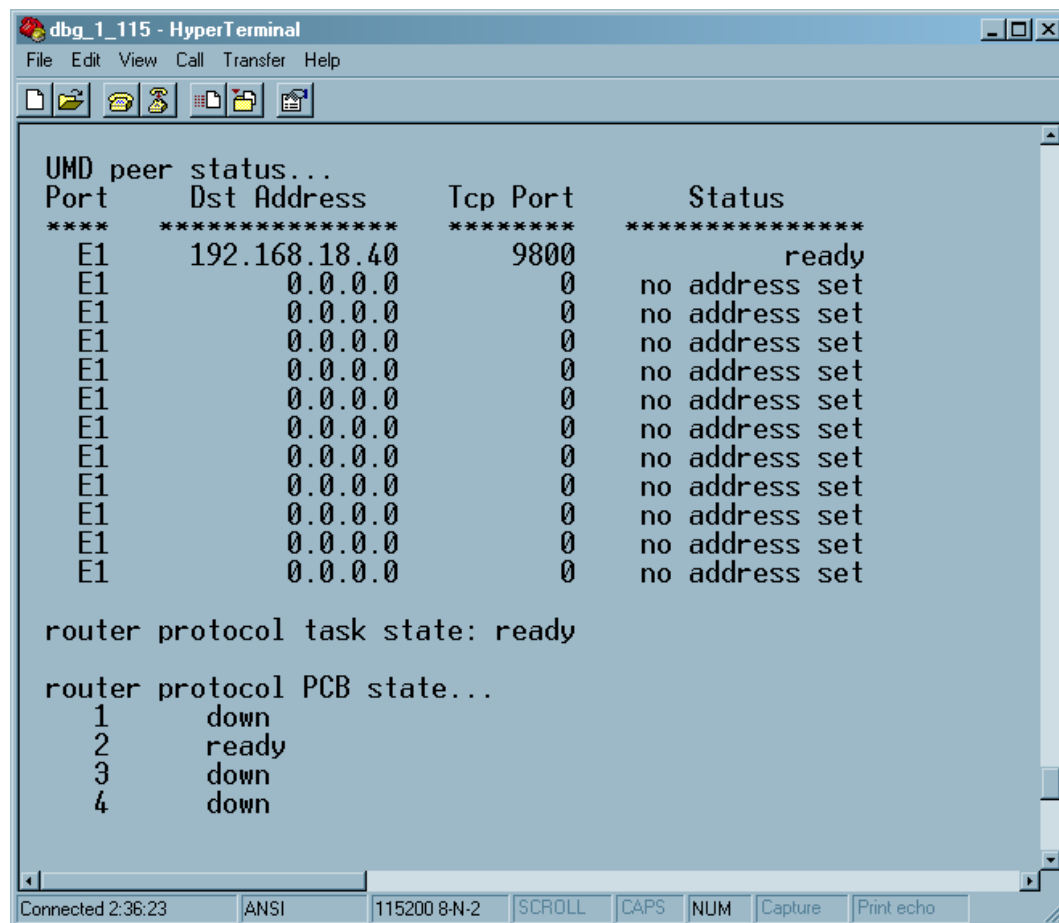

Figure 4-1: Communication States
4. Figure 4-1 shows the 7700PTX-D28 is able to communicate with a router connected to port 2.
4. Figure 4-1 shows that the 7700PTX-D28 is able to communicate with the UMD peer whose IP address is 192.168.18.40 and who is listening on TCP port 9800.